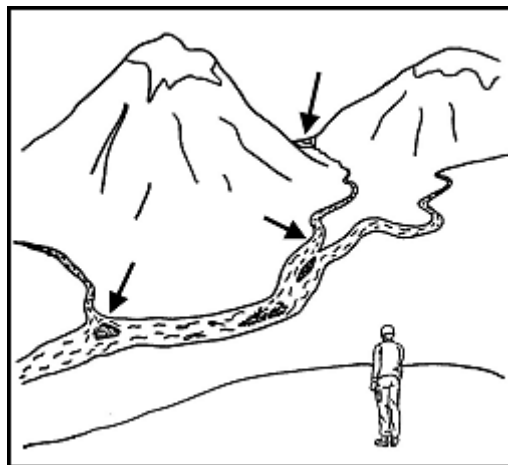

Figure 9-1. Normal locations of shallowest water and safest crossing sites.
- a. Site selection is extremely important once you determine that you must make a crossing (Figure 9-1). Look for a high place from which you can get a good view of the obstacle and possible crossing sites. A distant view, perhaps from a ridge, is sometimes better than a hundred close views from a riverbank. Site selection must be made before the arrival of the main body.